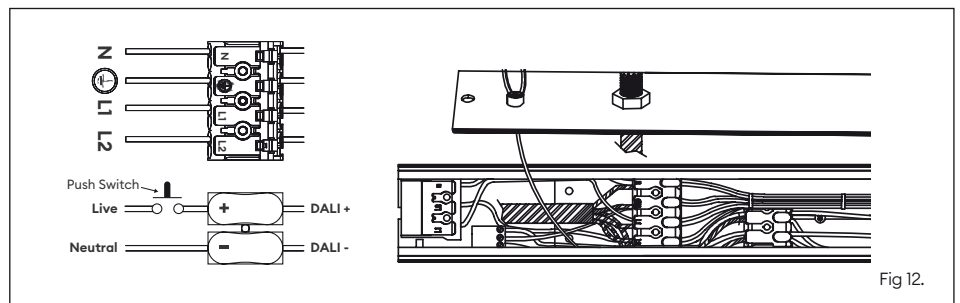

Fig 12.
7. Connect the mains supply to the terminal block located in the base of the product. N = Neutral, ⊕ = earth, L1 = Permanent Live, L2 = Switched Live. + = DALI/ pushDim Live, - = DALI/ pushDim Neutral (Fig 12.)
7. Connectez l'alimentation secteur au bornier situé à la base du produit. N = neutre, ⊕ = terre, L1 = tension permanente, L2 = tension commutée. + = DALI/ push-dim phase, - = DALI/ push-dim neutre (fig. 12.)
7. Collegare l'alimentazione di rete alla morsetteria situata nella base del prodotto. N = neutro, ⊕ = terra, L1 = tensione permanente, L2 = tensione commutata. + = DALI/ pushDim Live, - = DALI/ pushDim Neutral (Fig. 12.)
6. Connect the mains supply to the terminal block, see line 7 of the suspension installation (Fig 12).